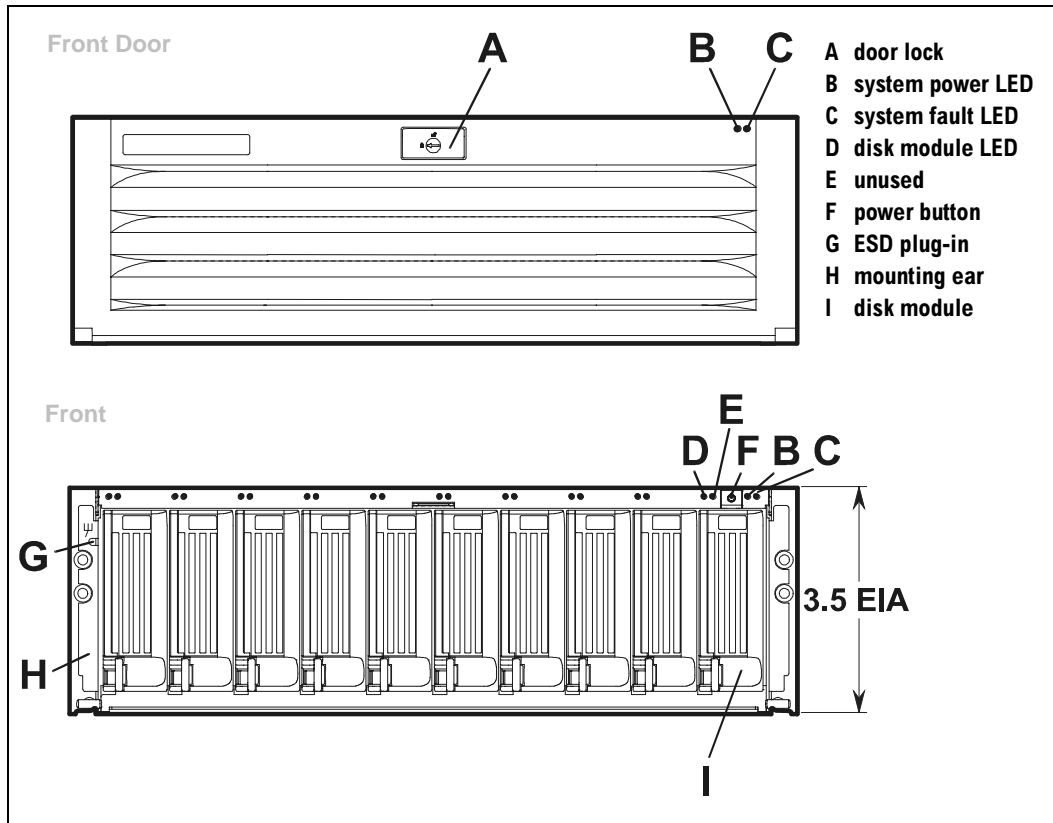
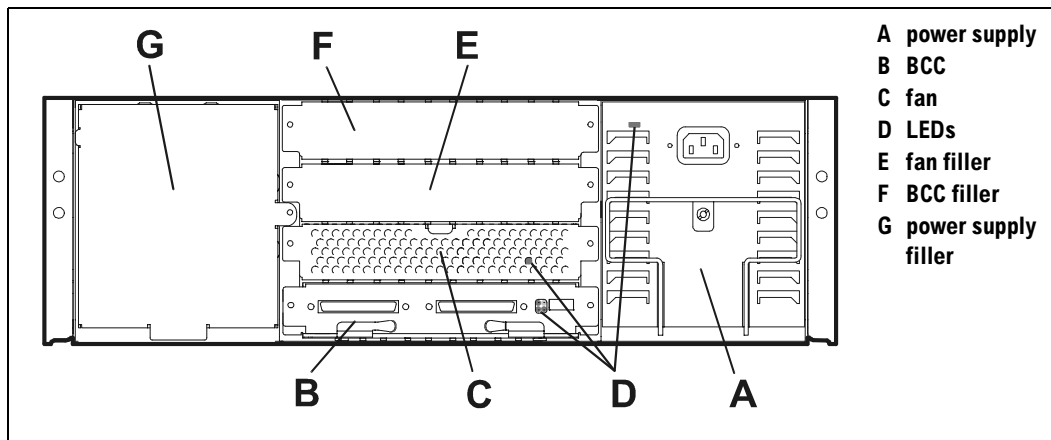

Figure 1 Disk System Front Views
Figure 2 Standard Disk System Back View
The disk system occupies 3.5 EIA units in a standard 19-inch rack. Disk modules mount in the front, shown in Figure 1. Power supplies, fans, and BCCs mount in the back, shown in Figure 2 on page 18. A lockable front door shields the environment from RFI and provides access to disks and the power button.
- On the front of the disk system (Figure 1), LEDs indicate the status of the disk system and I/O activity on the disk modules:
- The system power LED (B) indicates that power is on or off.
- The system fault LED (C) indicates whether or not a fault has occurred in the disk system fan or power supply.
- Above each disk module, the LED on the left (D) indicates I/O activity. (The LED on the right is not used.)
- On the back of the disk system (Figure 2), LEDs (D) indicate component and bus status.
Located in the upper right corner behind the disk system door, the power button (F in Figure 1) terminates power from the power supply to the BCC and other internal components.